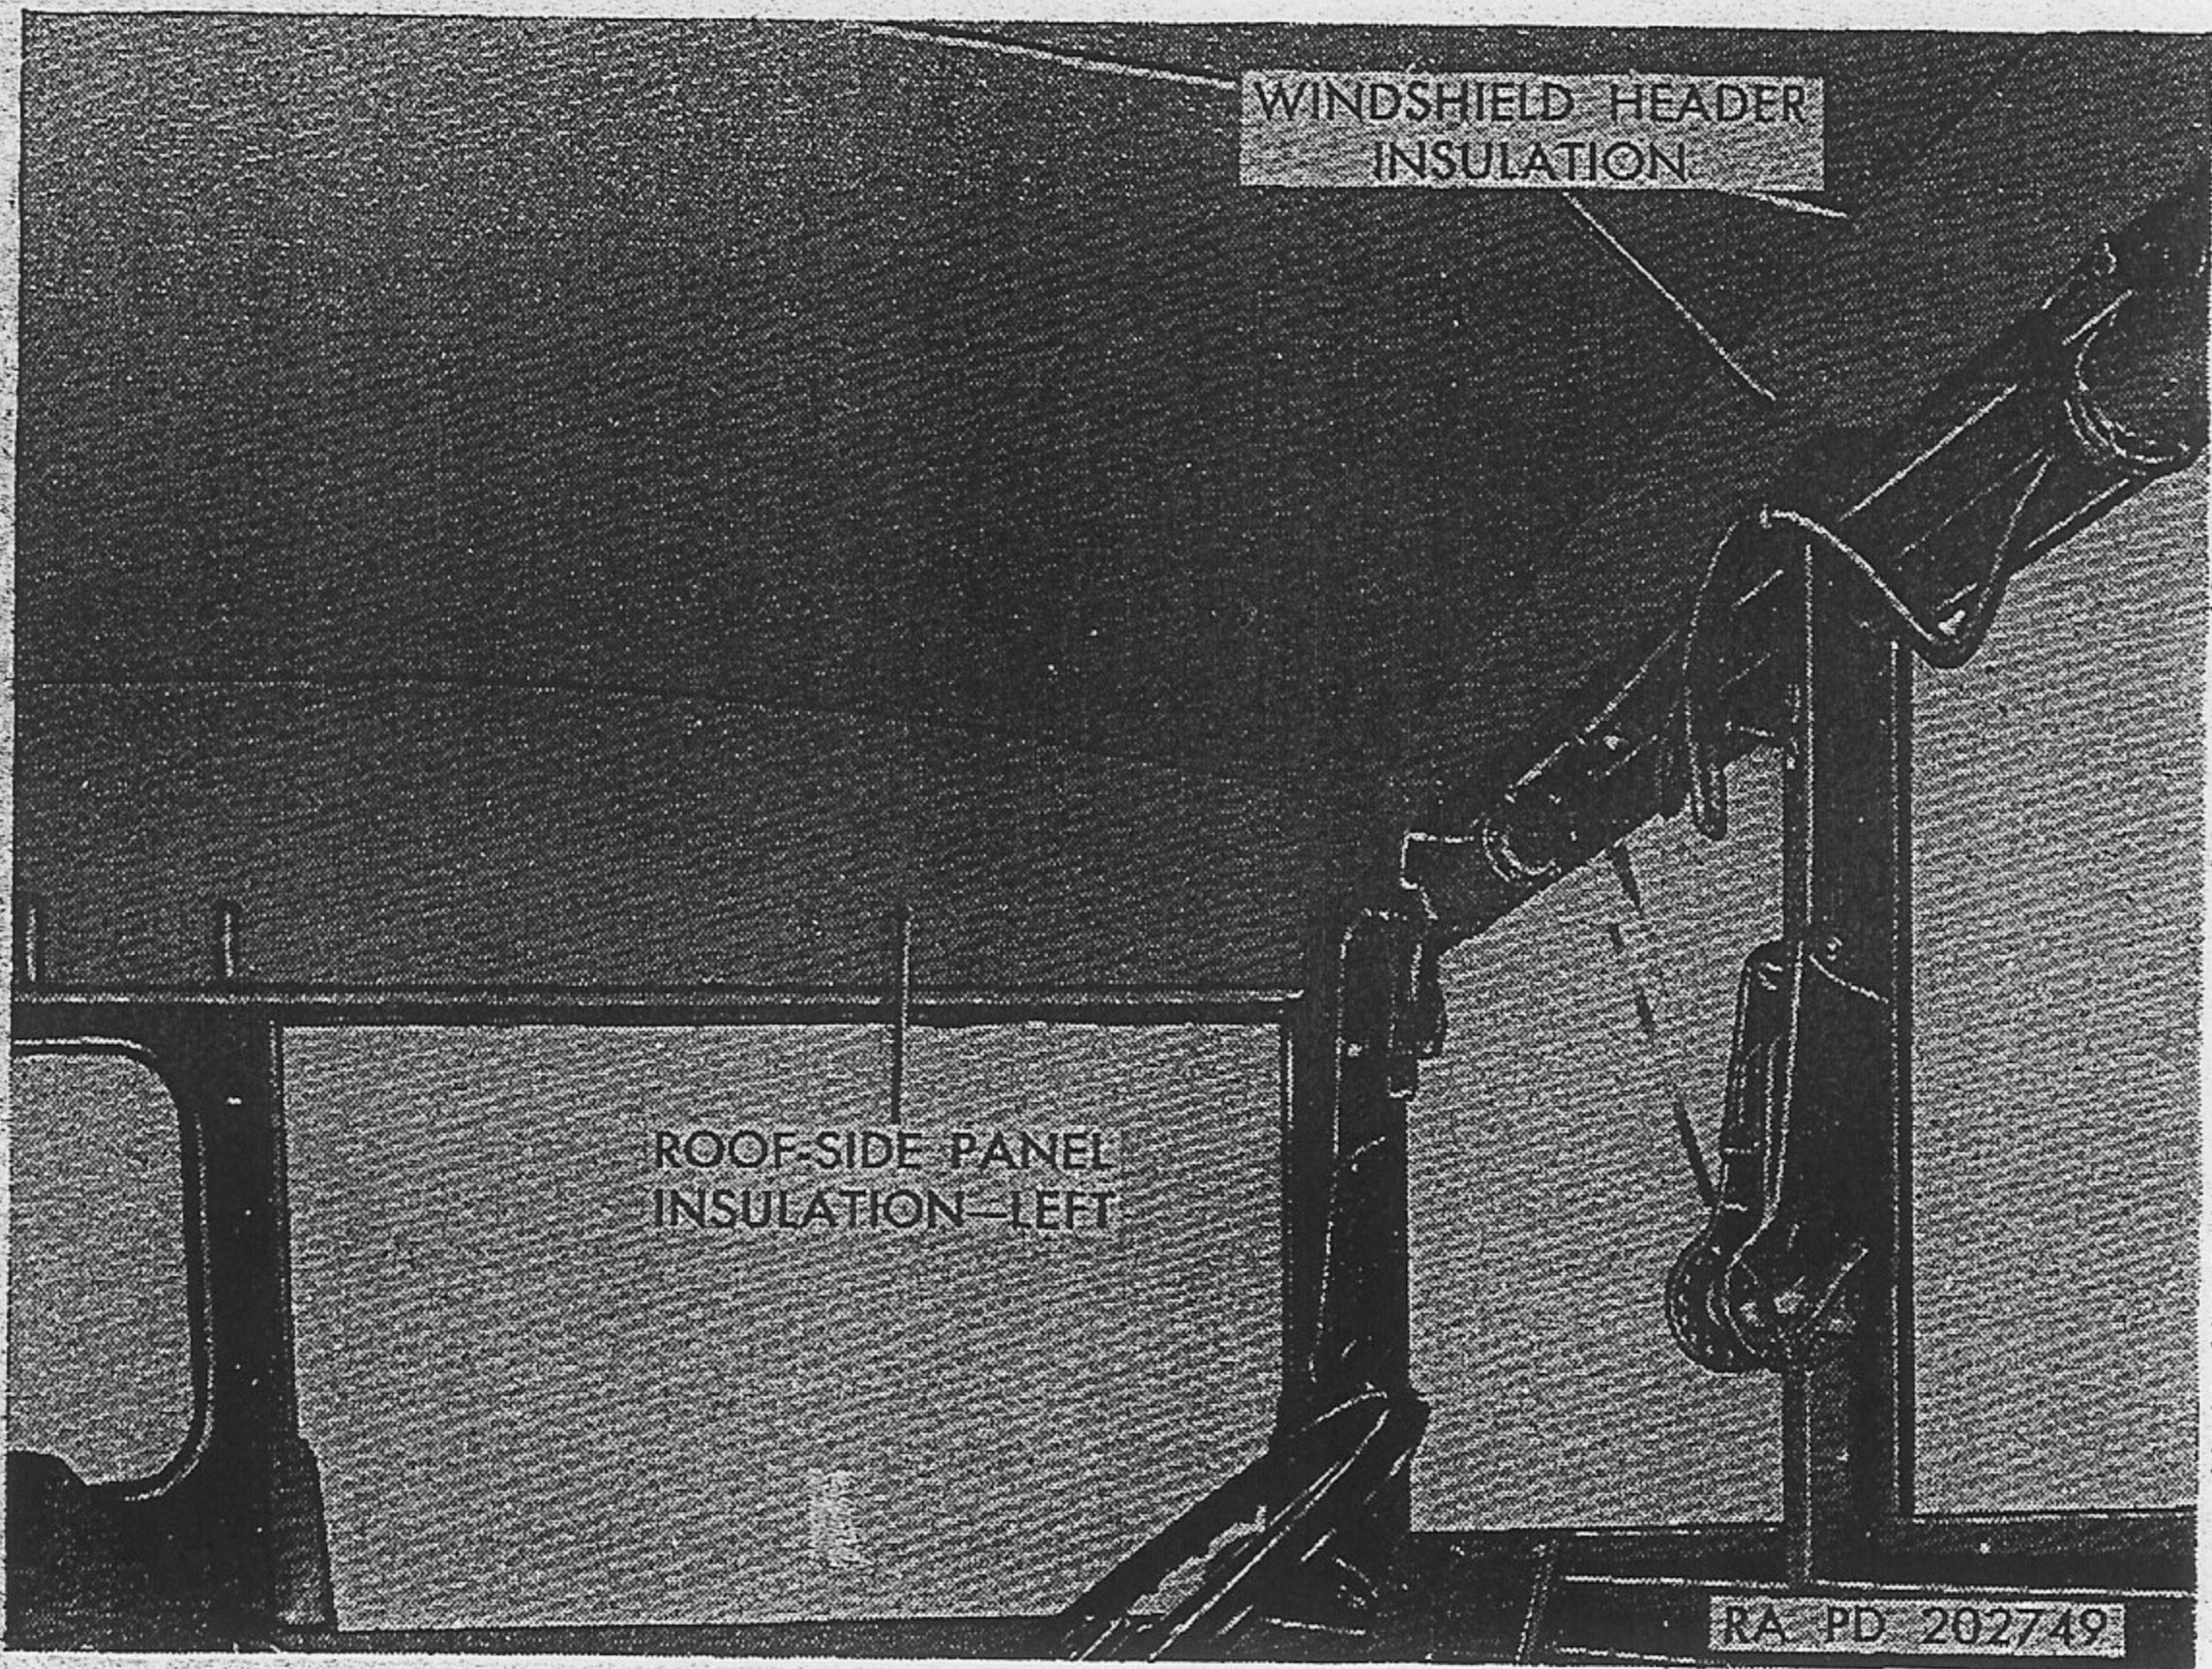

Figure 12. Roof-side panel and windshield header insulations installed.
- (1) Apply sealing cement to inside of the two roof-side panels. When cement becomes tacky, install the roof-side panel insulations, leaving approximately  $\frac{7}{8}$ -inch overhang at front, as shown in figure 12. Apply the in-
- (2) Apply sealing cement to inside of windshield header and install windshield header insulation, as shown in figure 12. Apply the insulation so that it butts tightly against the roof and side panel insulations.
- (3) Cement the loose end of the back panel insulation and tuck it over and between screws. Butt top and back panel insulations tightly together.
- (4) Check side panel seals and adjust, if necessary; rough side should be against the panels.